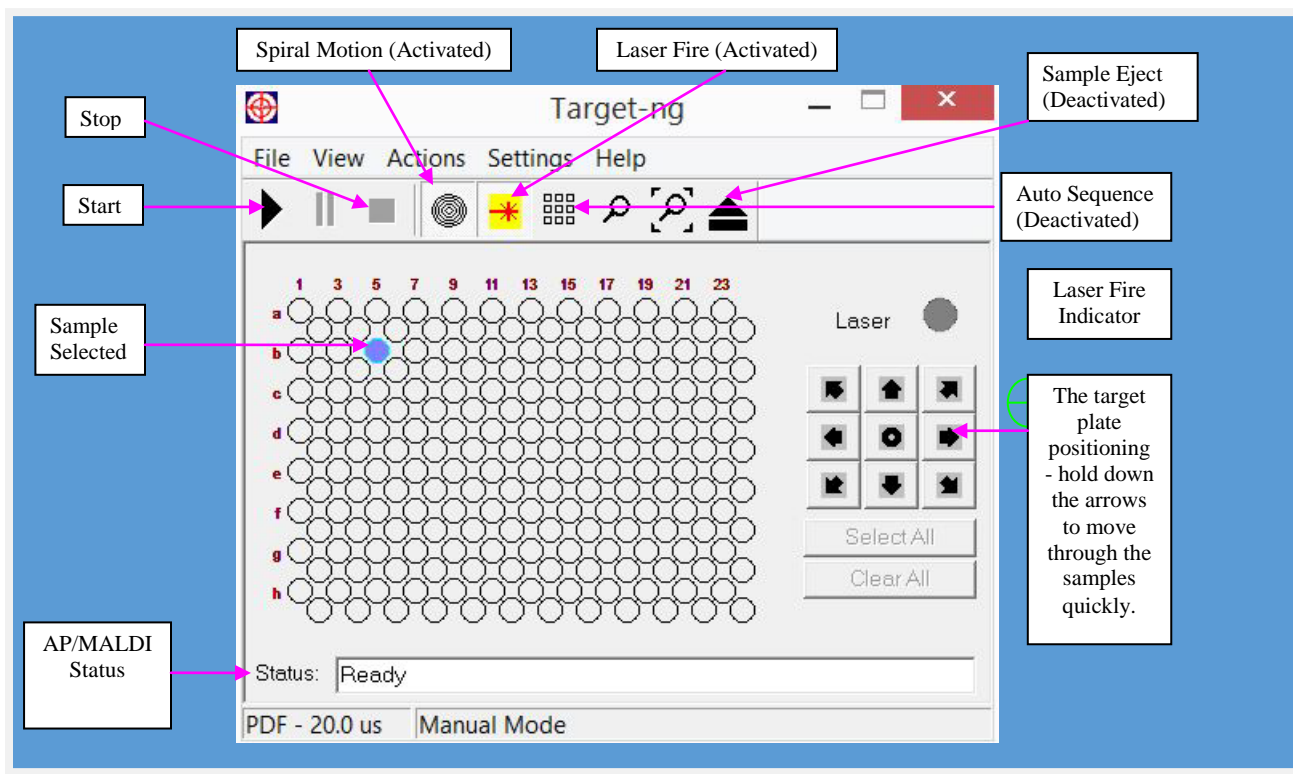
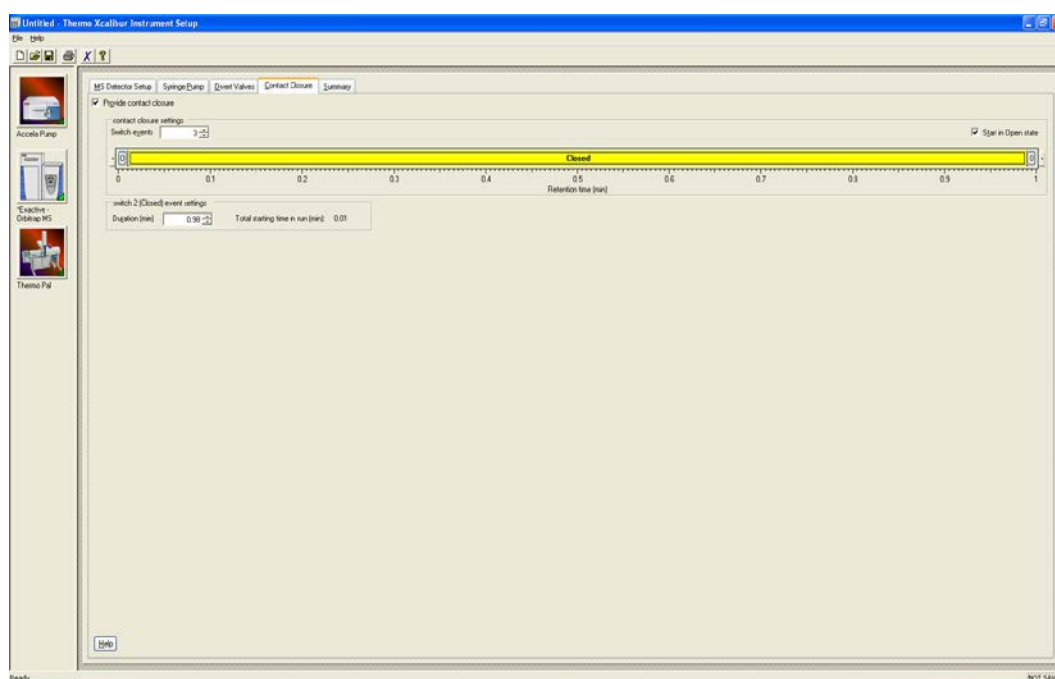
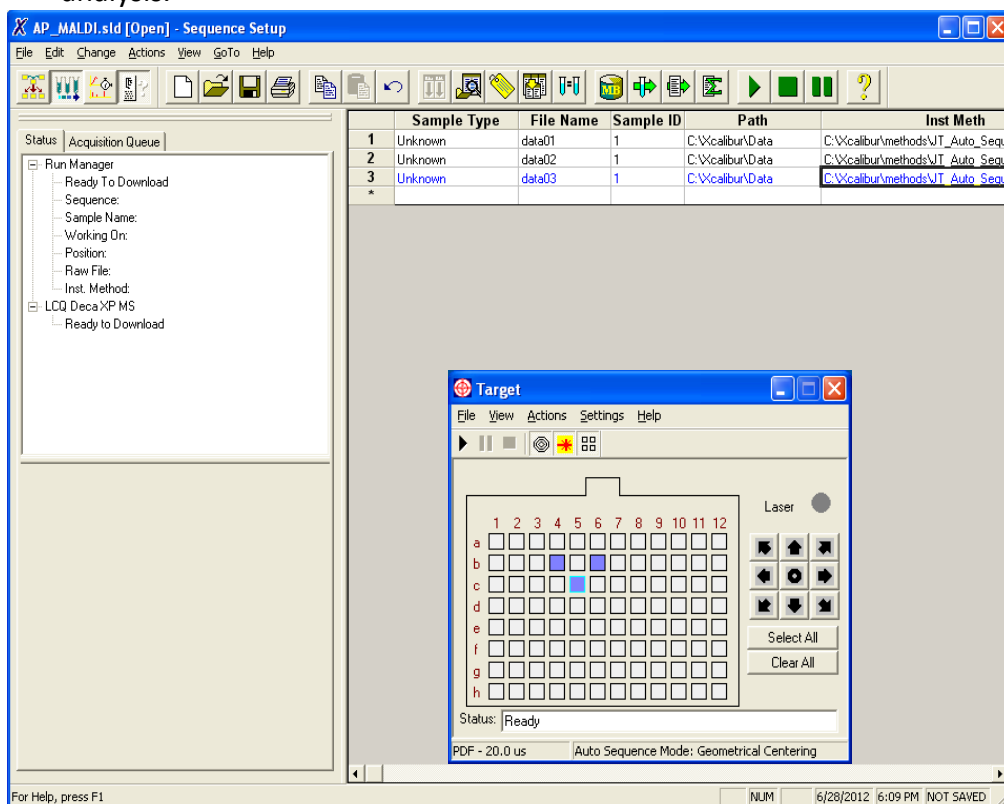

Figure 7.12. Target Software Controls
Figure 7.22 Instrument Set Up
Figure 7.23 Xcalibur/Instrument Setup/Sequence Setup and Target
There are two modes of operations for the Target Software: manual (auto sequence toolbar icon is deactivated) and auto sequence. The operator can switch between the modes by pressing the auto sequence toolbar icon  (Fig. 7.12). In the manual mode, only one sample on the "target plate" can be selected. Click any spot in the target plate field and the target plate will move to the selected position. The operator can shift the position of the spot by clicking the arrow buttons placed around the center button as shown in Fig. 7.12, or through holding down on the arrow buttons to advance to the next sample faster. Click the center button to restore the central spot position.
2. Check that the “Auto Sequence” button is activated in the main Target Software window (see Fig. 7.12) and that the “External Timing” radio button in the Target’s “Settings Dialog” window is activated as well (see Fig. 7.23).
3. The operator has the option to create or edit an existing instrument method file. If the operator chooses to select an existing file, he/she must open an instrument method file that is appropriate for the user's experiment (see Thermo Xcalibur Software Manual for details). Then, click on the contact closure tab (see Fig. 7.22 below).
Figure 7.22 shows the contact closer when it is configured for the external timing and automated AP/MALDI data recording.
4. Make changes to this page so it looks exactly like that shown in Fig. 7.22 including:
5. Save the settings to the instrument method file and close the Instrument Setup Program. These settings ensure that the signals on contacts 1-2 of the “Peripheral Control” connector control the laser firing by the *TARGET* Software. They will be used later during data acquisition. If the operator can prepare several different instrument methods for the different types of experiments and experiment durations, he/she must make sure that the contact closure profile for every method looks like it is shown in Fig. 7.22.
7. Create the Xcalibur Sequence or open an existing Xcalibur Sequence file (see the ThermoXcalibur Software Manual for specific details). The number of samples in the sequence setup window table (see Fig. 7.23) should correspond to the total number of samples selected for the analysis.
Figure 7.23 shows the sequence setup that is configured for the external timing and automated Sub-AP/MALDI three sample data recording process.
The lines in the table are run sequentially, and every line in the table corresponds to the sample selected in Target window as they are run one-by-one (Fig. 7.23). Please use the help/sequence setup menu in the Xcalibur/Sequence Setup Program for more details on the creation and editing of the Sequence Setup table. Make sure that all files in the instrumental method column of the table are saved with contact closure settings, which is described in the previous step above in Figure 7.22. The files where the acquired data will be saved are shown in the file name column.
13. After the waiting for the contact closure message is displayed in the sequence setup window (see Fig. 7.23), press the PLAY button in the Target Software window to start AP/MALDI operation.